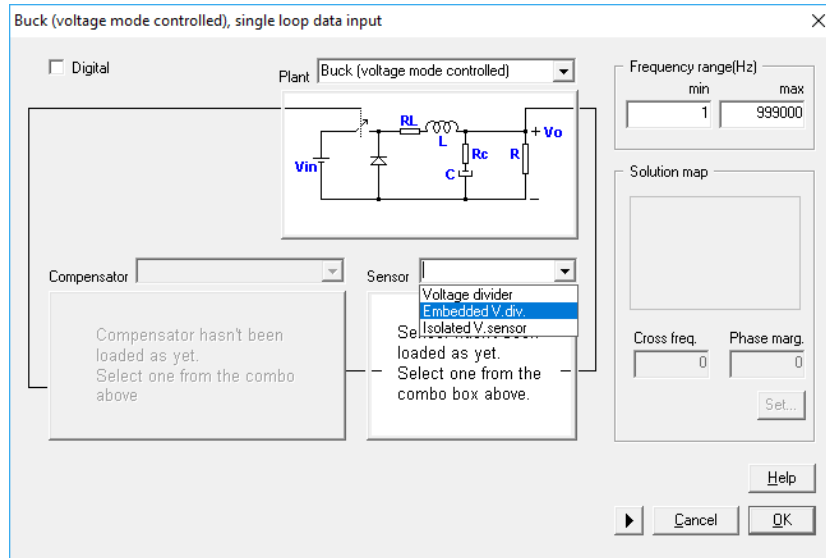
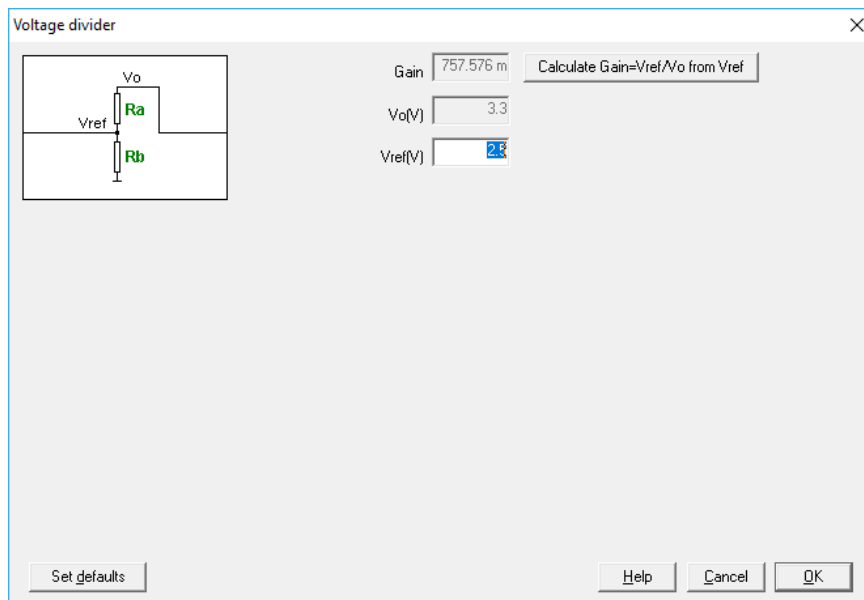

Figure 6: choosing the sensor
Figure 7: Defining the sensor
4. Configure the sensor. See Figure 6 and Figure 7.